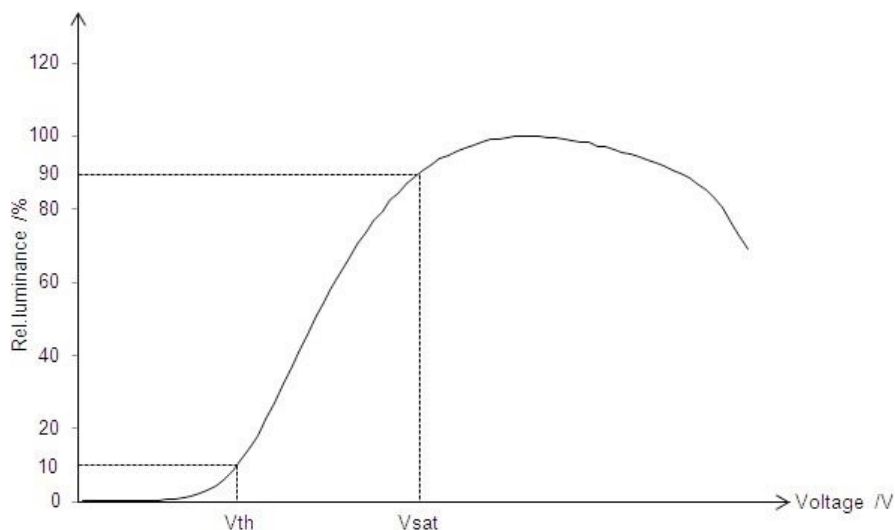

Figure 6: The definition of Vth & Vsat
1. Viewing angle is the angle at which the contrast ratio is greater than 10. The viewing are determined for the horizontal or 3, 9 o'clock direction and the vertical or 6, 12 o'clock direction with respect to the optical axis which is normal to the LCD surface (see FIG.6).